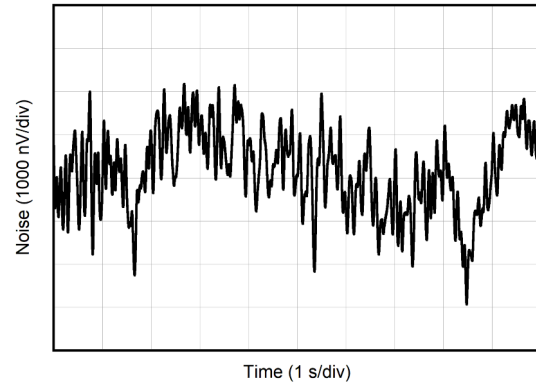

Figure 7-22. 0.1-Hz to 10-Hz Voltage Noise (RTI)
0.1-Hz to 10-Hz Voltage Noise (RTI), $G = 0.125\text{ V/V}$	Figure 7-22